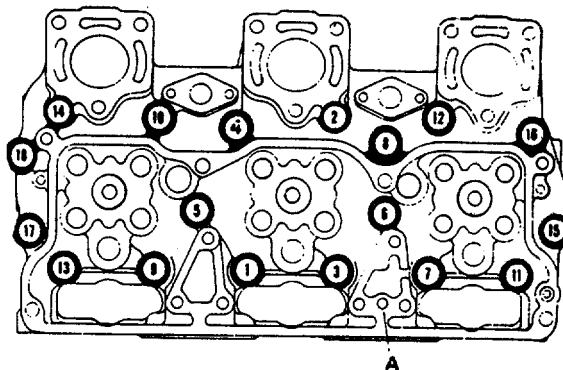

Figure 13-42. Head Capscrew Tightening Sequence
(10) Tighten capscrews to 25 to 40 foot-pounds (34 to 54 joules) in sequence shown in figure 13-42.